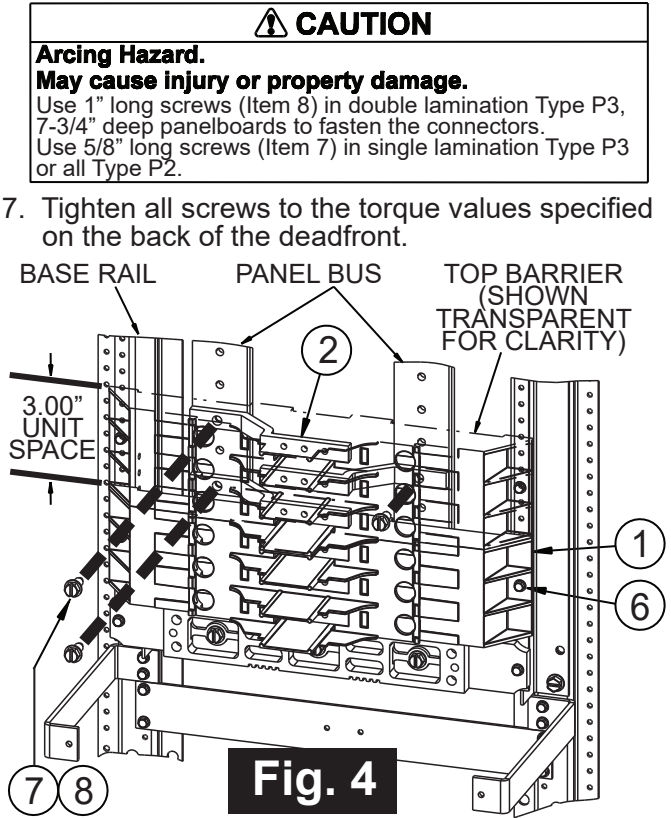

Fig. 4
6. Refer to Fig. 4:
Position the breaker mounting barrier (Item 1) so that it fills the 3" unit space for the kit and fasten it to the base rails using two #8-32 screws (Item 6). Install the phase connectors (Item 2) within the mounting barrier, alternating between the left and right panel bus. The left-right-left connector pattern shown in Fig. 4 may be reversed if necessary to continue a connector pattern already in place in the panel. Fasten the connectors to the panel bus with the proper 1/4"-20 screws (Items 7 or 8).